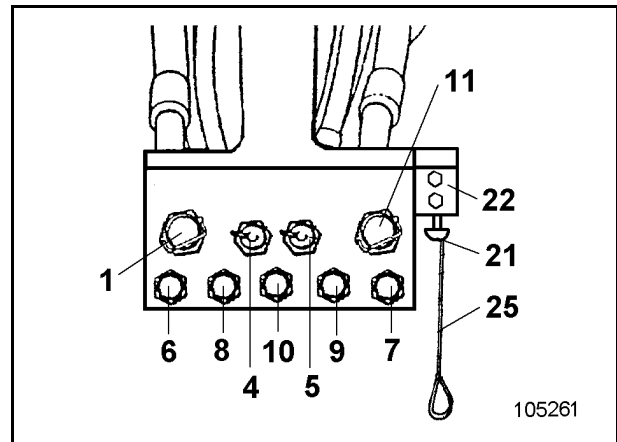

Fig. 3-18:
- express coupling (8, Fig. 3-18:) for the lefthand engine
- express coupling (9) for the righthand engine.